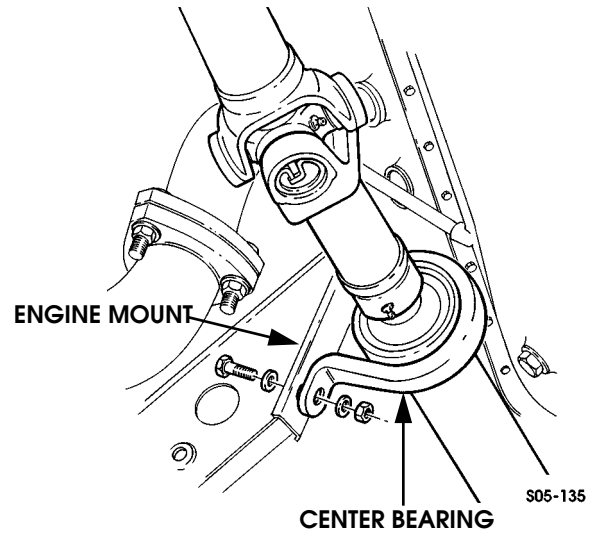

Figure 9-115: Center Bearing Attachment
4. Remove bolts attaching center bearing to engine mount (Figure 9-115).